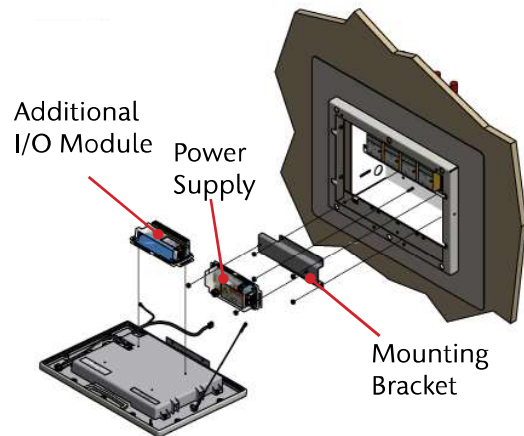

Figure 212: Power Supply, Module Mounting
- b. Mount the new Power Supply (B05) to the bracket using the nuts provided (Figure 212).